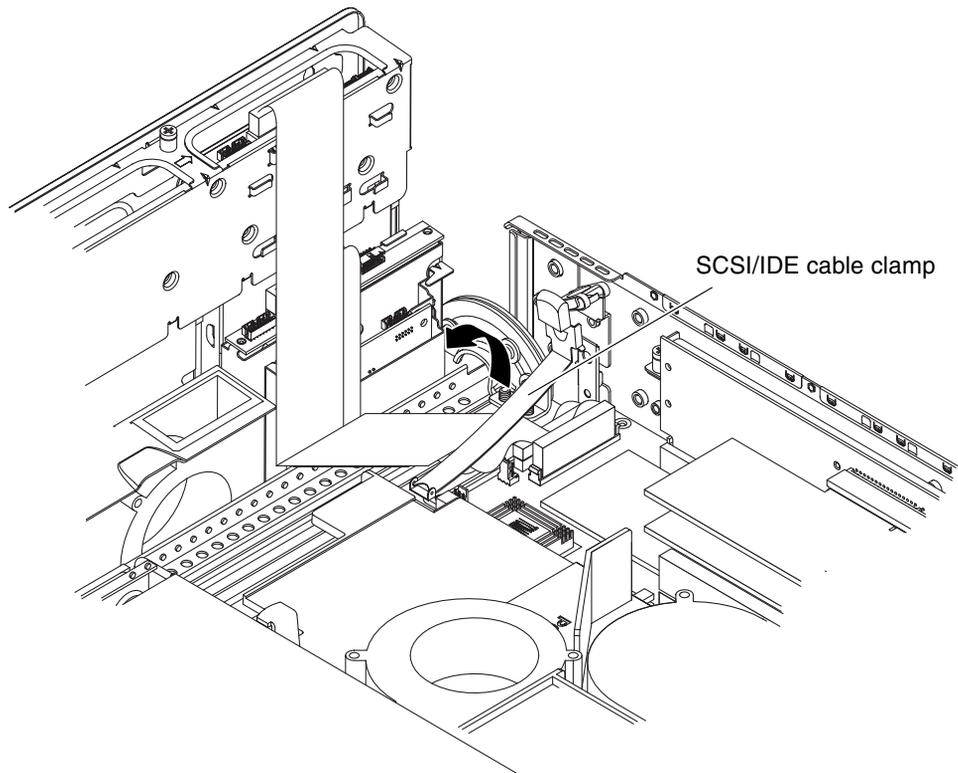

FIGURE 5-13 Lifting the SCSI/IDE Cable Clamp
10. Lift the SCSI/IDE cable clamp out of the way (FIGURE 5-13).
The cable clamp is attached to the chassis and has a green cap. See FIGURE 5-13 for the location of this clamp.